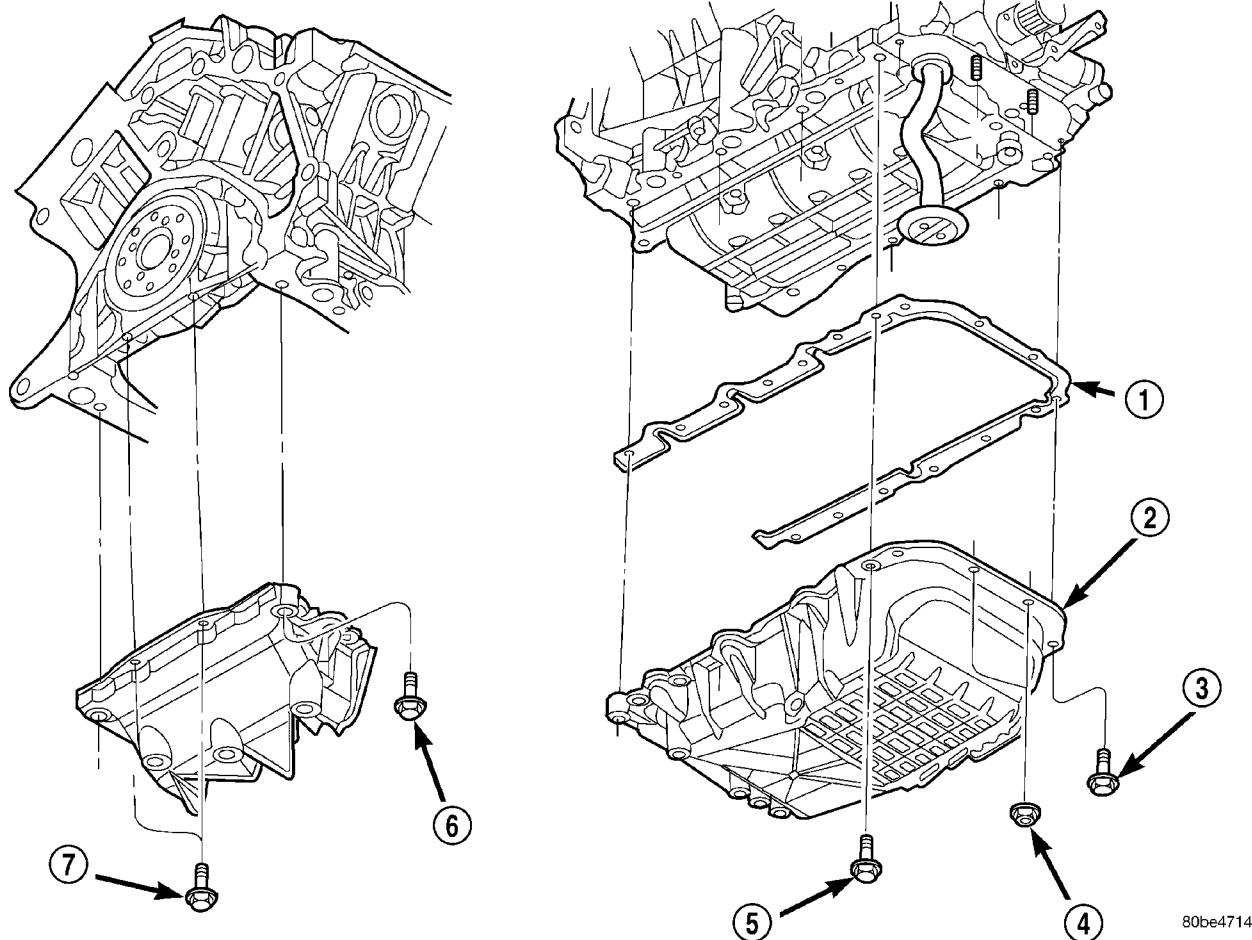
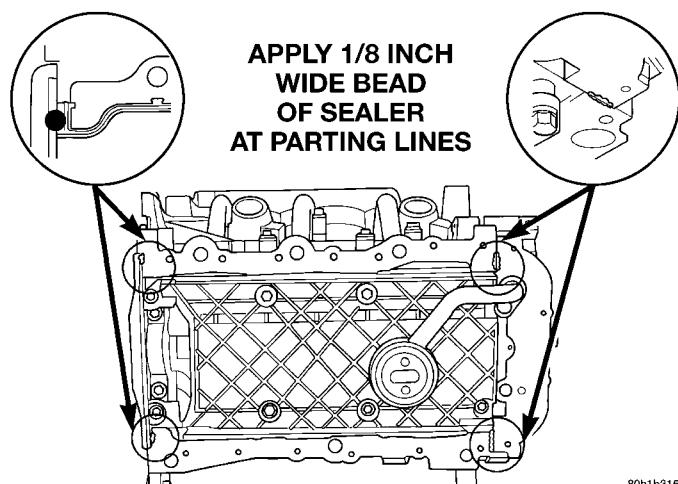

Fig. 105 OIL PAN
Fig. 106 OIL PAN SEALING
- Remove oil pan (Fig. 105).
(1) Apply a 1/8 inch bead of Mopar® Engine RTV GEN II at the parting line of the oil pump housing and the rear seal retainer (Fig. 106).
(2) Install oil pan gasket to the engine block.
(3) Install pan and attaching fasteners (Fig. 105).